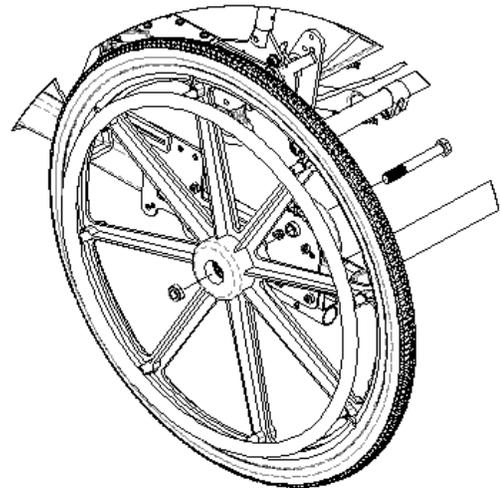

Figure 15.28: Removing rear wheels fastened with axle bolt.
1. If the wheelchair is fitted with fixed axles, the rear wheels can be removed using a $\frac{3}{4}$ " socket head and a $\frac{3}{4}$ " crescent wrench or equivalent (see Figure 15.28). The axle bolt heads must be located on the inside of the frame with the nuts located on the outside of the rear wheel hubs. If axle bolts are installed backwards, the upper frame may hit the end of the axle bolts when attempting to tilt the chair. During assembly, tighten the axle bolts so that the rear wheels are snug but not so much that the wheels are unable to spin freely.